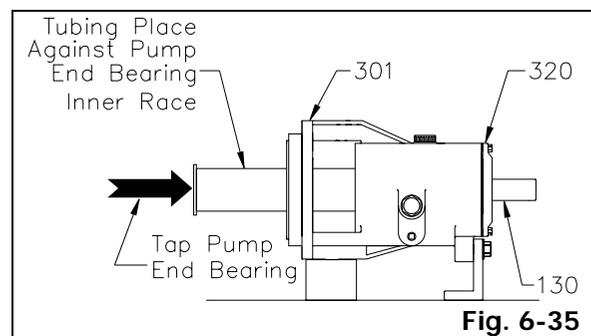

Fig. 6-35
9. Install bearing cover assembly into drive end of bearing bracket (301) or bearing frame (300). Align bolt holes and install four (4) bearing cover bolts into bearing cover (320). Tighten bolts evenly.
10. Tap the pump end bearing (310 for KS-SR or 311 for KS-SG) few times with a piece of tubing placed against the inner race of bearing to make sure drive end bearing (310 for KS-SR or 312 for KS-SG) is fully seated on bearing cover (320) (Fig. 6-35).